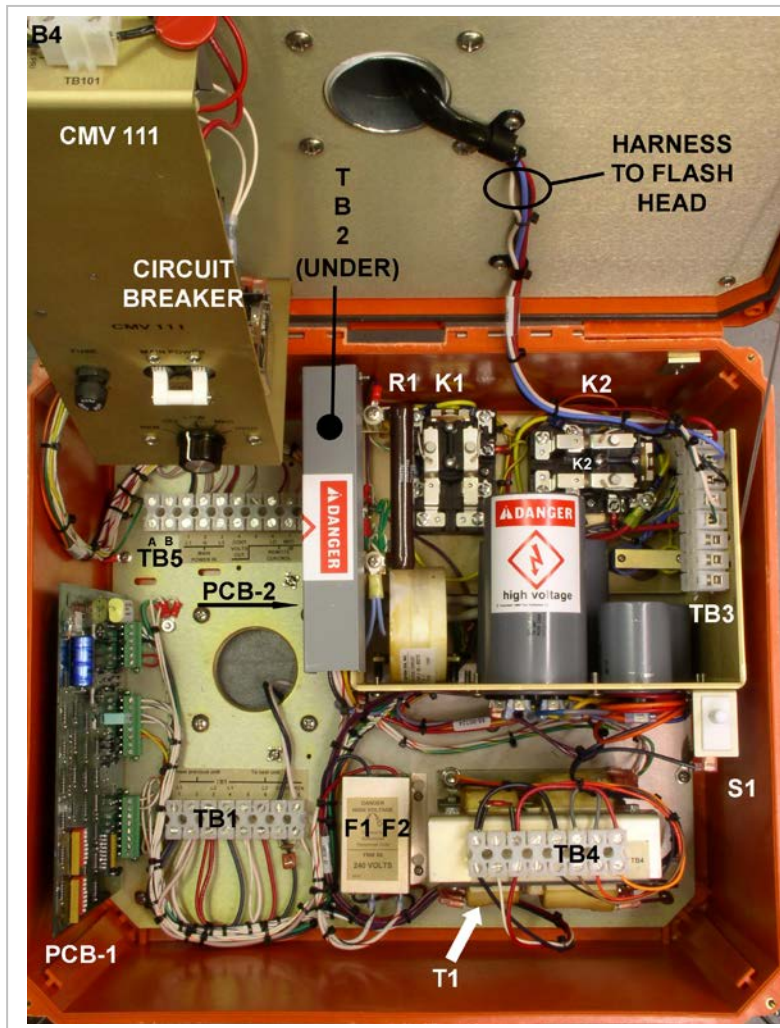
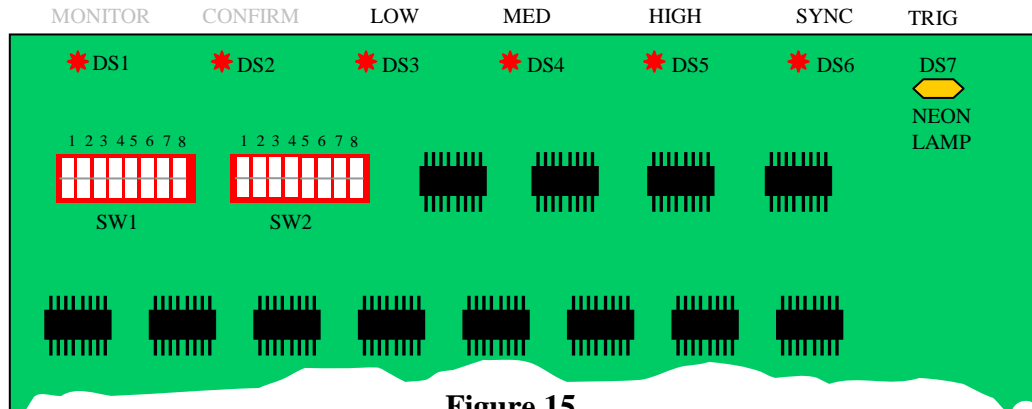
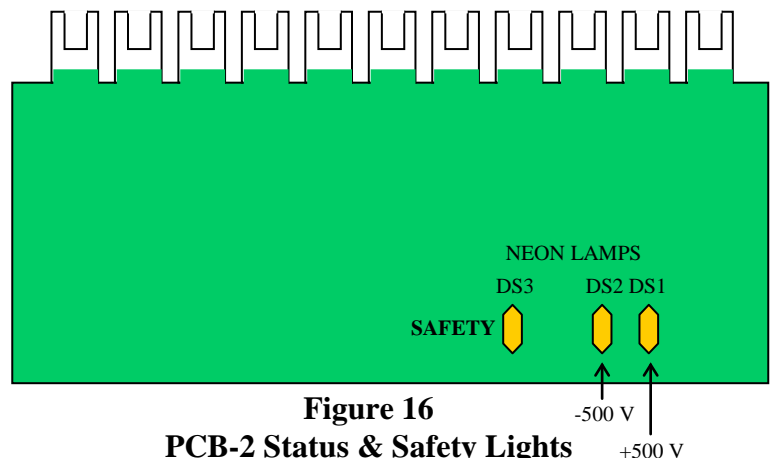

Figure 13
Figure 15
Figure 16
- Check screw tightness on TB1 and TB3 (8-position terminal blocks; (See Figure 13 for locations). Check every position that has a wire connection whether to external wiring or to internal circuits. You should also check TB5 in master units.
It is important to know where the major components are located, especially when attempting to follow troubleshooting procedures. Use Figures 13 and 14 for this purpose. A slave power supply does not have a CMV-111 Control Module; it is otherwise identical to a master unit shown in Figure 13.
Each power supply has two circuit boards with indicator lights that can be used to interpret operating conditions. PCB-1 (Figure 15) is the timing and control circuit board. Its location is shown in Figure 13. It has six red LEDs, but only four of these apply to standard functions. DS1 and DS2, labeled Monitor and Confirm, are used only when the Monitoring option has been elected at the time of purchase. DS7 is a neon glow lamp. SW1 and SW2 are programming switches.
PCB-2 does not show in Figure 13, but its location beneath the High Voltage Guard is noted. The neon lamps on PCB-2 (Figure 16) are in prominent view for safety and troubleshooting. DS3 is a safety lamp. It is lit whenever the dc bank voltage exceeds about 80 volts.
Be sure that the power supply connected to this flash head has been turned off and the safety lamp (DS3) on PCB-2 is not lit (see Figure 16). The interlock switch in the power supply removes power when the cover is open; however, removing primary power by disconnecting it at its source to the system is recommended for safety.